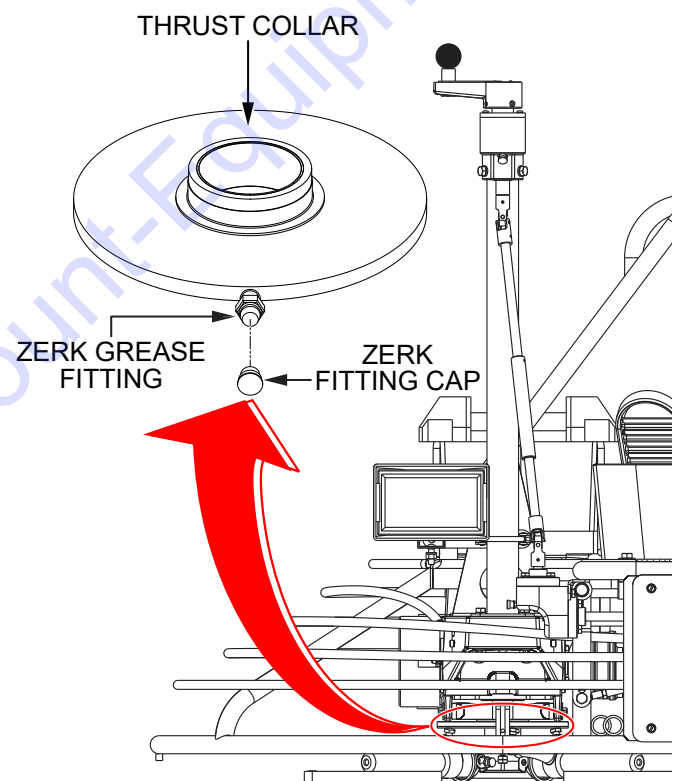

Figure 41. Thrust Collar Lubrication
1. Locate the Zerk grease fitting on either thrust collar (Figure 41). Remove the Zerk grease fitting cap and set it aside.